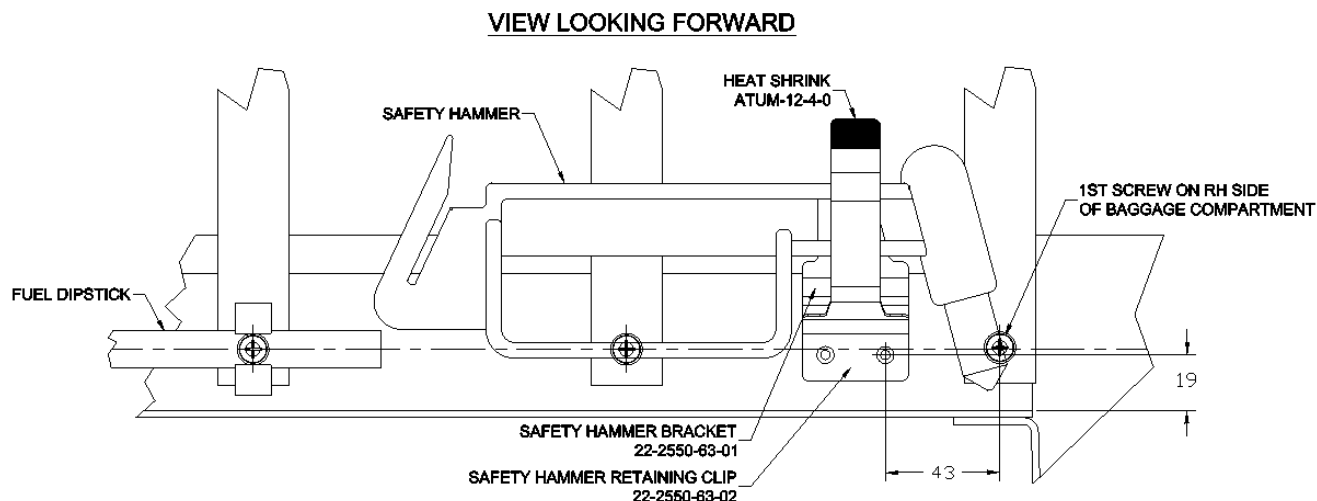

Figure 2
- 10.5** Position the safety hammer bracket on the baggage compartment floor panel. Position the safety hammer retaining clip (p/n 22-2550-63-02) over the bracket as shown in Figure 2. Use Clecos as required.
- 10.7** Install heat shrink (p/n ATUM-12-4-0) on upper edge of safety hammer retaining clip as shown in Figure 2.